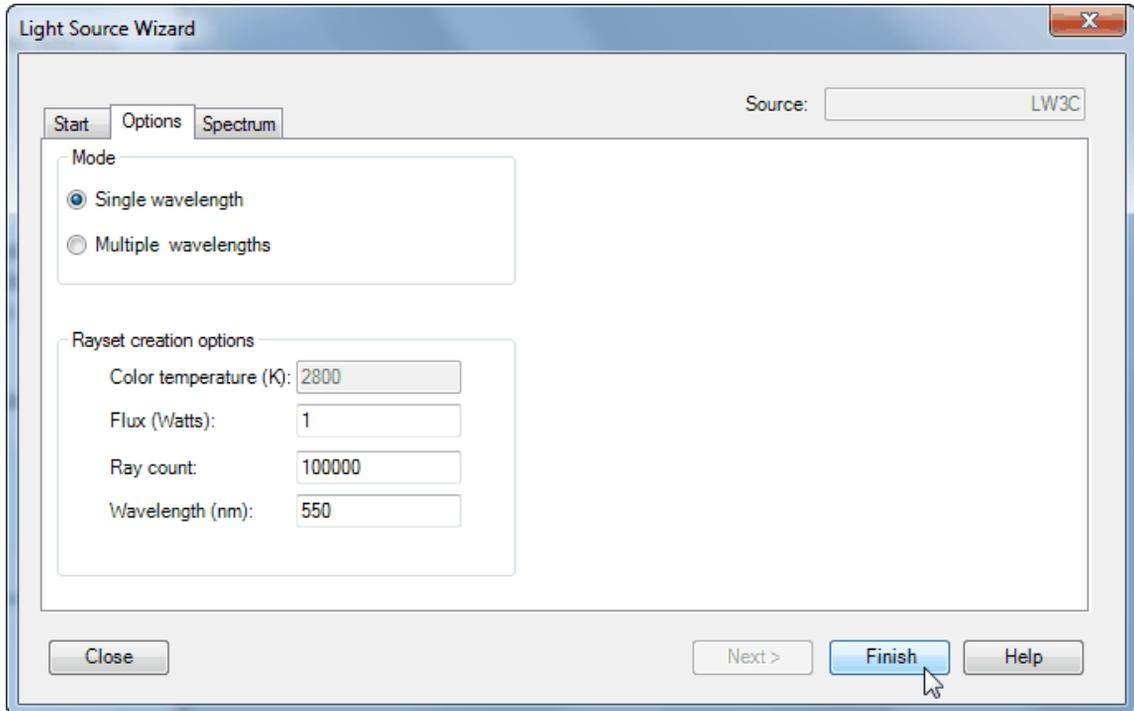

Figure 66 Light Source Wizard with default settings on the Options page for LW3C
- 5 Click **Finish** to accept the default settings on the **Options** page and generate the raysets. See Figure 66.